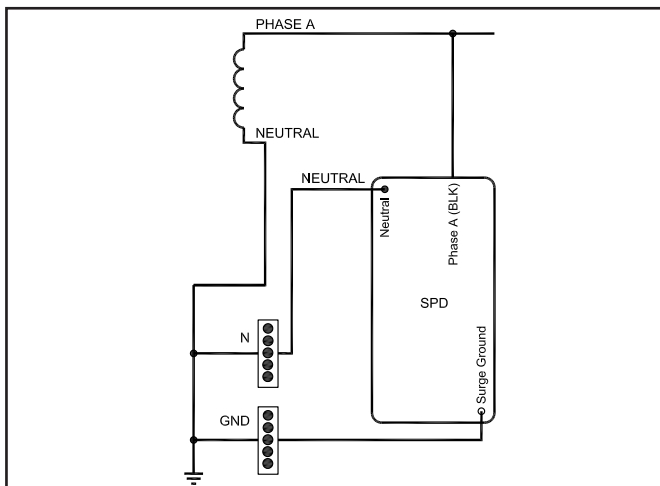
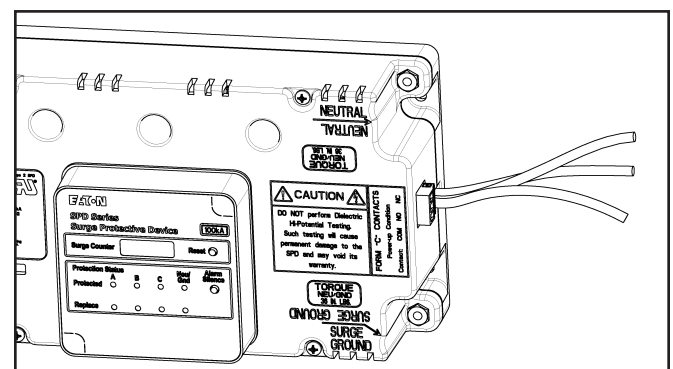

Figure 6. Wiring - Single Phase Units (230 L)
Figure 14. Phase Connections
6. Select the correct wiring diagram for the SPD you are installing. You must refer to this diagram while wiring the SPD. See Figures 6, 7, 8, and 9, on page 4.
- Connect Phase wire to circuit breaker. NEC requires that conductors to a surge device be protected by an overcurrent protection device. The cables on the SPD are #10 AWG, therefore would require a 30A 3-pole breaker. See Figure 14, and the wiring diagrams shown in Figures 6, 7, 8 and 9.